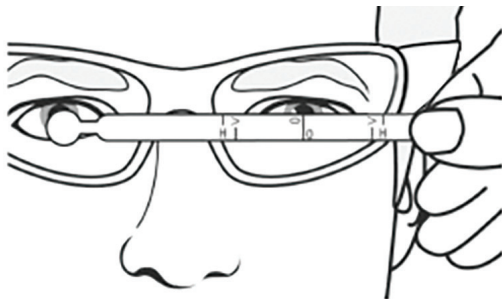

Figure 3: Horizontal Coverage
B. Rotate the Coverage and Gap Gauge to the horizontal position and again center the “0” line approximately in the middle of the wearer’s pupil. Check the distance between the pupil and the inner edge (near the nose bridge) and the outer edge of the eyewear. The distance from the center of the pupil to the inner and outer edge of the eyewear should meet or exceed the lines on the gauge marked with an “H” (Figure 3). Include the frame in the evaluation. Record the result on the Fit Evaluation Form under the “horizontal measurement” column. Repeat with the other eye.